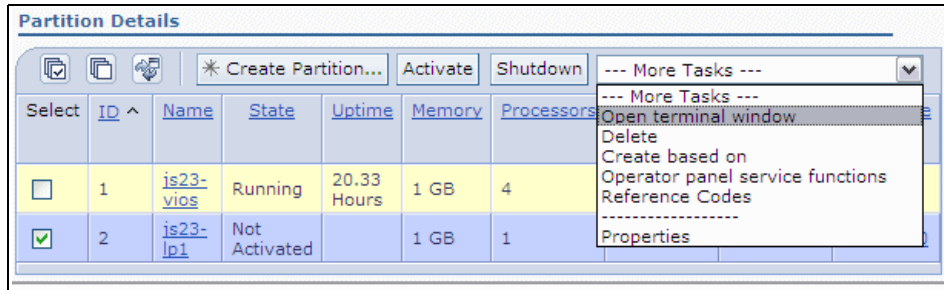

Figure 9-10 Opening a terminal window from the IVM
- c. Click the drop-down arrow to the right of the More Tasks field and select **Open terminal window** as shown in Figure 9-10.